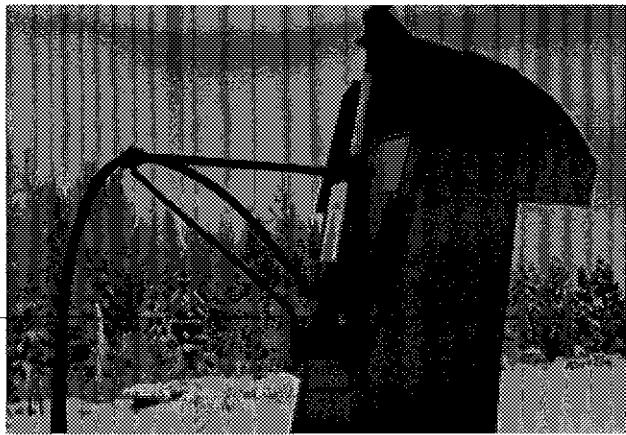

Figure 25
- 7) Use the optional hose support plate no. TSB-74104 (Fig. 25).